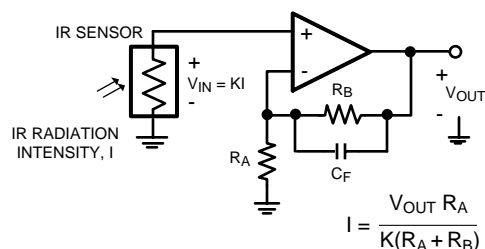

Figure 19. IR Radiation Sensor
The low input bias current and low input referred noise of the LMV791 and LMV792 make them ideal for sensor interfaces. These circuits are required to sense voltages of the order of a few μV , and currents amounting to less than a nA, and hence the op amp needs to have low voltage noise and low input bias current. Typical applications include infra-red (IR) thermometry, thermocouple amplifiers and pH electrode buffers. Figure 19 is an example of a typical circuit used for measuring IR radiation intensity, often used for estimating the temperature of an object from a distance. The IR sensor generates a voltage proportional to I , which is the intensity of the IR radiation falling on it. As shown in Figure 19, K is the constant of proportionality relating the voltage across the IR sensor (V_{IN}) to the radiation intensity, I . The resistances R_A and R_B are selected to provide a high gain to amplify this voltage, while C_F is added to filter out the high frequency noise.